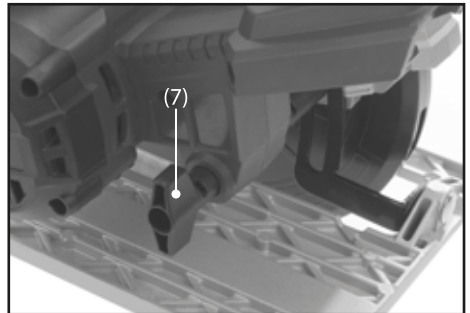

FIG.9
9.3 CUTTING DEPTH ADJUSTMENT – FIG.9
- To adjust the cutting depth, loosen the cutting depth adjustment knob (7).